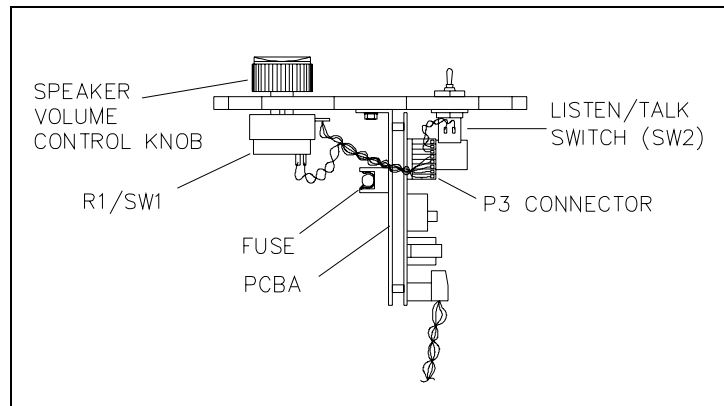
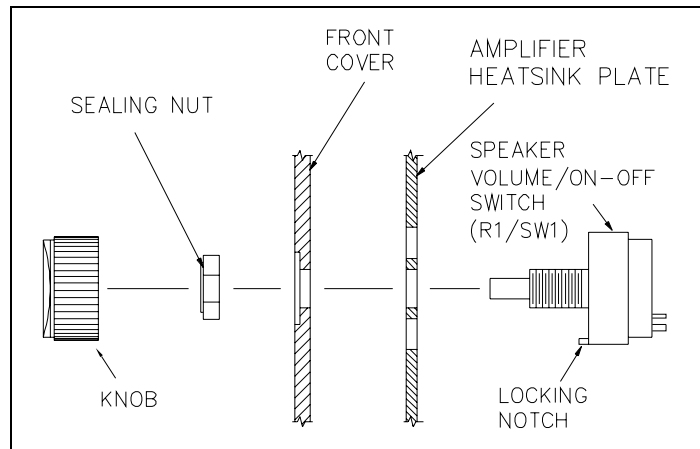

Figure 1. Location of Controls
Figure 2. Speaker Volume/On-off Switch Assembly
- Insert the new speaker volume/on-off switch (R1/SW1) through the heatsink plate and through the front cover. Ensure that the associated anti-rotation pin is properly inserted into the amplifier heatsink plate's locking notch and the attached wires are positioned towards the fuse holder. Refer to Figure 1 and Figure 2.